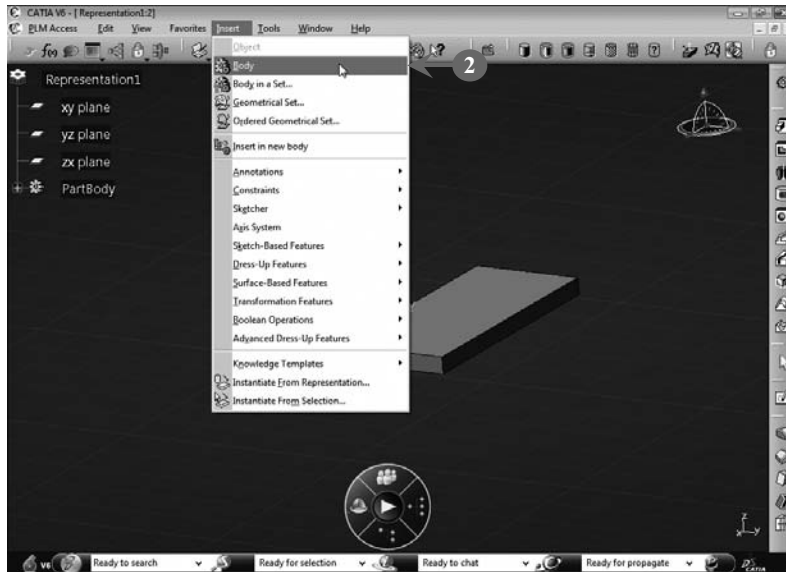

FIGURE 3.121
2. Select **Insert > Body** to add another body into the already existing model, as shown in **Figure 3.121**.